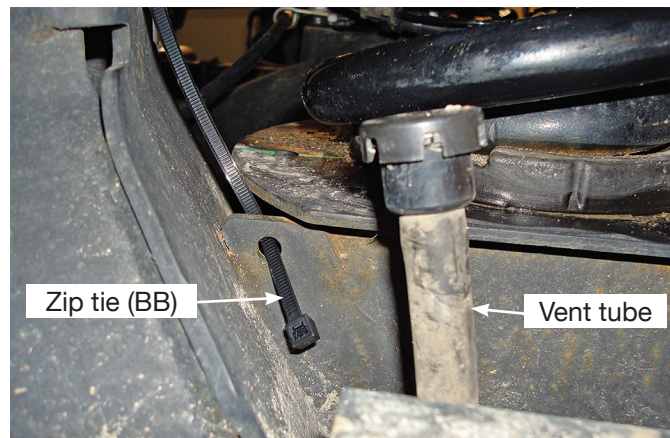

Fig. 3
2. On the left (driver's) side axle there is a small vent tube (Fig. 3) that needs to be tied on an angle with a zip tie (BB).